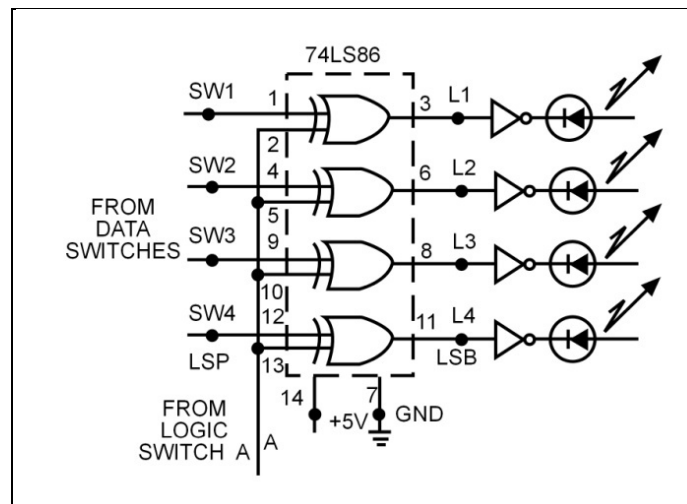

Fig. 2-4 4-Bit Exclusive-OR Circuit for Steps 6-8
- Construct the circuit shown in Fig. 2-4. The inputs are applied through the data switches (SW1-SW4) and you will observe the outputs on the LED indicators (L1-L4). Switch-SW4 and LED indicator-L4 can be considered to be the LSB of the 4-bit binary input and output words.
8. Study the results in Table 2-3. Using this information and the circuit in Fig. 2-4 plus the results of your previous steps, determine the function of this circuit.